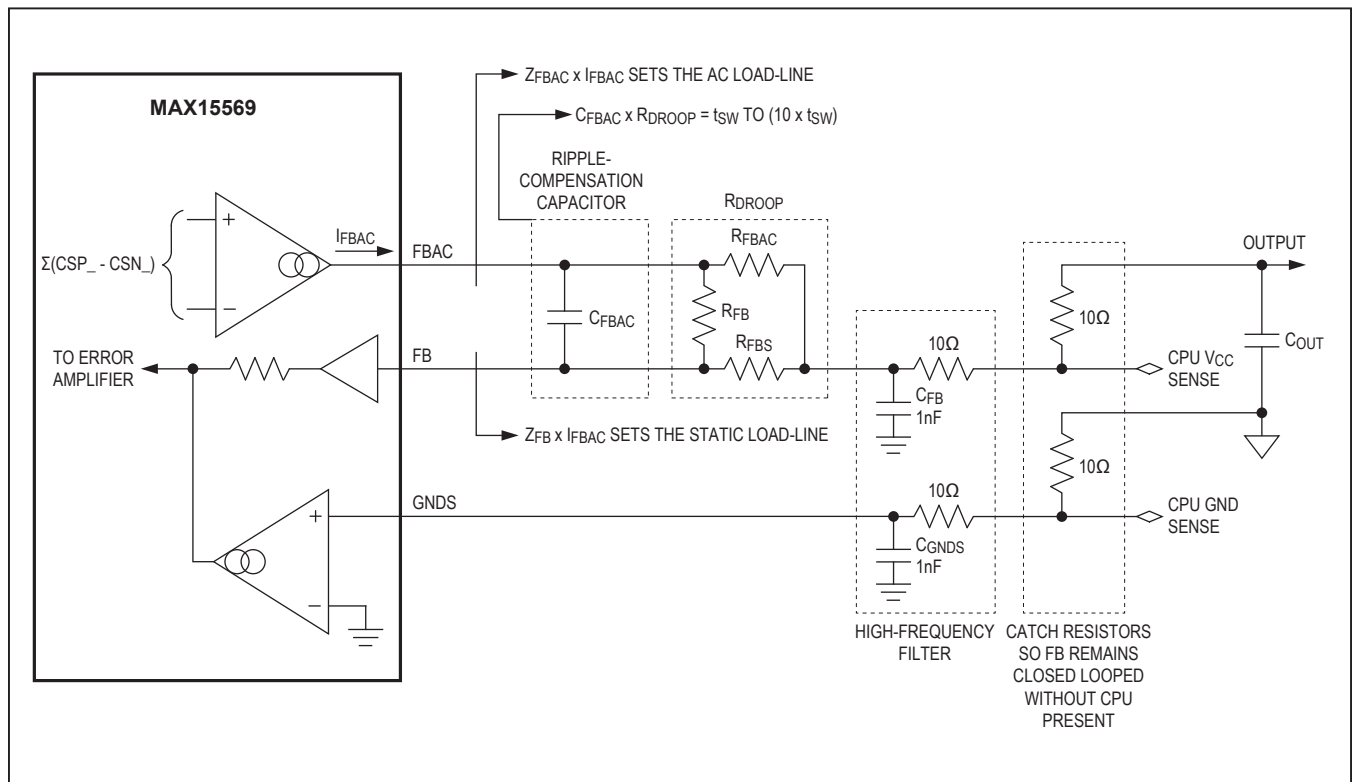

Figure 6. FB Network (Load-Line Control and Remote Sensing)
The device includes a transconductance amplifier for controlling the load-line regardless of the sense impedance value. The input signal of the amplifier is the sum of the current-sense voltages (V_{CSP1} , V_{CSN1} , and V_{CSP2} , V_{CSN2}), which differentially sense the current-sense voltage. See Figure 6.
- The effective impedance (Z_{FB}) between the feedback-sense input (FB) and the positive side of the feedback remote sense sets the static (DC) droop.
- An integrator on FB corrects for output ripple and ground-sense offset (see Figure 6).
*See Figure 6.
The device includes differential, remote-sense inputs to eliminate the effects of voltage drops along the PCB traces and through the power pins of the processor. The feedback-sense node connects to the load-line resistor/capacitor network (R_{DROOP}/C_{FBAC}). The ground-sense (GNDS) input connects to an amplifier that adjusts the feedback voltage to counteract the voltage drop in the ground plane. Connect the load-line resistor (R_{DROOP}) and ground-sense (GNDS) input directly to the remote-sense outputs of the processor, as shown in Figure 6. The correction range is bounded to less than $\pm 200\text{mV}$. The remote-sense lines draw less than $\pm 0.5\mu\text{A}$ to minimize the offset errors.